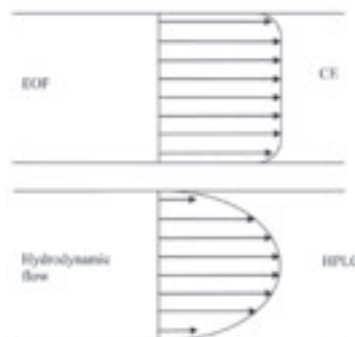

Figure 2. Comparison of CE and HPLC flow profiles
- CE has a flat flow profile due to the EOF, which does not contribute significantly to band broadening and results in narrower peaks. HPLC has a parabolically shaped pressure-driven flow profile (see Figure 2).